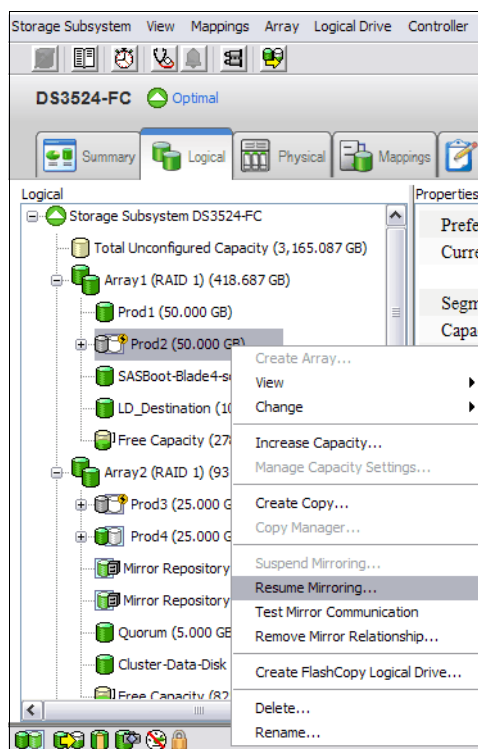

Figure 5-44 Resuming mirror on a logical drive
1. Select the logical drive in the logical view of the primary storage subsystem. Then, select the **Logical Drive** → **Remote Mirroring** → **Resume**. (Or, right-click and select **Resume Mirroring** from the pop-up menu, as shown in Figure 5-44.)